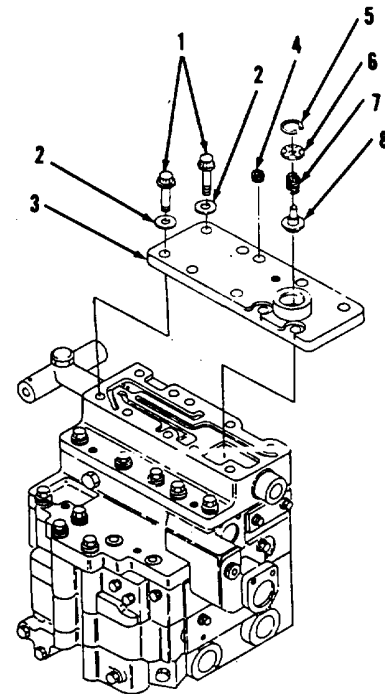

Figure 14-81.
1. Remove eight bolts (1), washers (2) and cover (3, Figure 14-81) from control relief valve.
2. Remove plug (4), retainer ring (5), retainer (6), spring (7) and poppet (8) from top of cover (3).
1. Measure spring (7, Figure 14-81). Free length should be 0.75 inch.
1. Install poppet (8), spring (7), retainer (6), retainer ring (5) and plug (4) on top of cover (3, Figure 14-81).
2. Install cover (3), eight washers (2) and bolts (1) to control relief valve. Tighten eight bolts (1) to 19 to 25 ft-lb. torque.